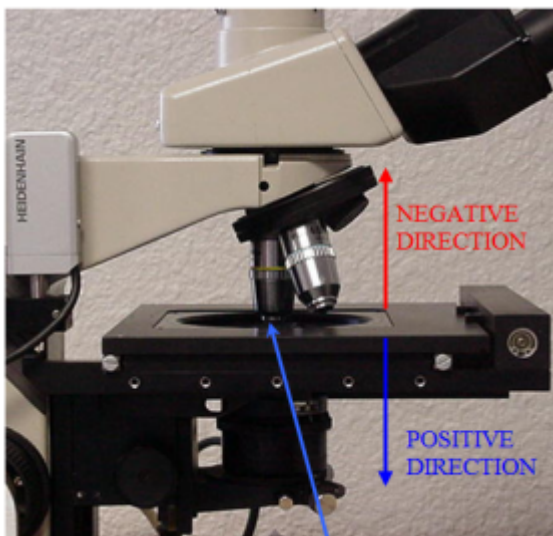

Fig 3: Set objective farther than 200 microns from the sample, then set the focus drive’s position to ZERO.
1. Focus the sample manually and then press the ZERO button on the controller. When correctly configured, the controller will never auto-focus to a position greater than 200 μm in the negative direction from the 0000 positioned. (This safety feature may be disabled by the AFLIM (or AL) command) By zeroing the controller at a typical focus location, you should have a reasonable range for the auto-focus to operate yet still protect an objective from crashing into the sample (Fig 3). You can also use the HERE Z=0 command to zero the Z-axis position with software, if Z is the focus axis.